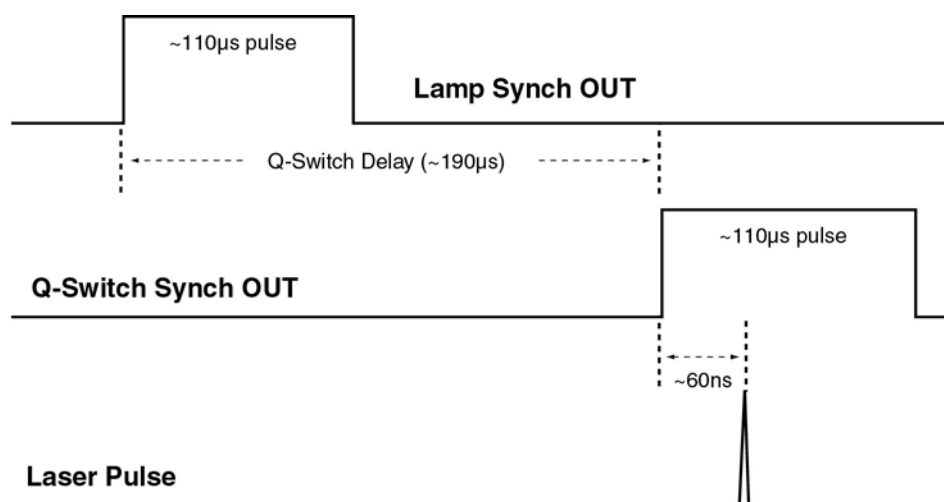

Figure 4-3: Timing Diagram for Internal Triggering
- Ext** – The Q-switch will fire at a user defined time when a pulse is input to the “Q-switch Trigger” BNC. NOTE: Pulse energy and pulse stability will vary depending upon the timing between the “Fire Laser” signal and the “Fire Q-SW” signal. Refer to Figure 4-3, the timing diagram. The optimum Q-switch setting for the highest pulse energy and the best pulse to pulse stability is 180 – 200  $\mu$ s.
Two output signals are available to synchronize the Solo and the user’s setup. The relationship between the synchronization pulses and the laser pulse are shown below in Figure 4-3.